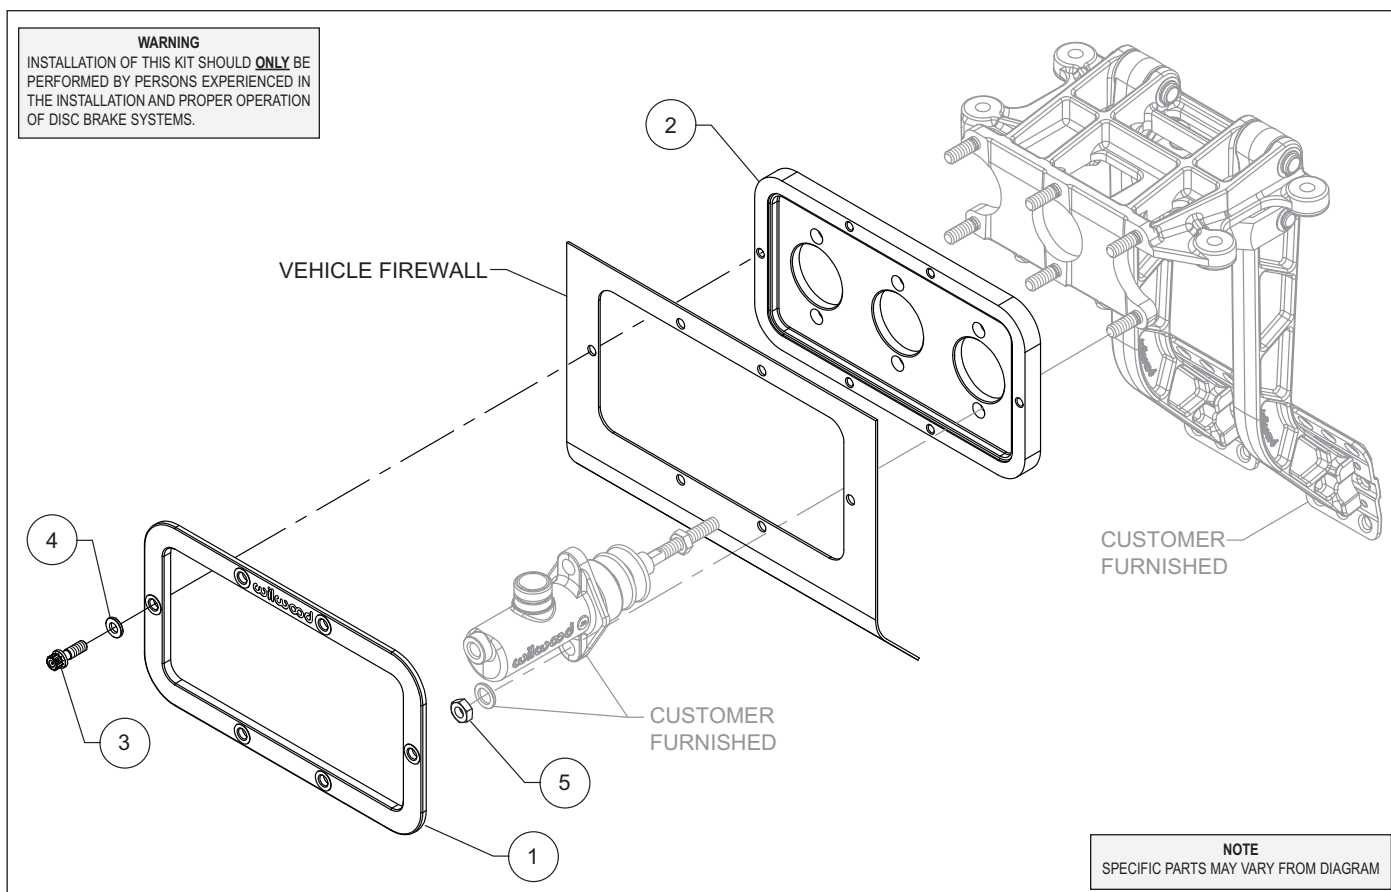

Figure 2. Master Cylinder Firewall Mounting Kit Installation
(numbers in parenthesis refer to the parts list and Figure 2 on the next page)
- Install the faceplate (1) (engine side of firewall) to the master cylinder mounting plate (2) (interior side of firewall). Secure in place with bolts (3), and washers (4) as shown in Figure 2. Once all bolts have been installed and everything aligns correctly, remove bolts one at a time, apply red *Loctite*® 271 to threads and torque to 155 in-lb.
- Install Wilwood compact master cylinders (sold separately) per those instructions. Use nuts (5) included in firewall mount kit in place of the ny-lock nuts included with the pedal assembly. Use red *Loctite*® 271 when installing nuts (5).